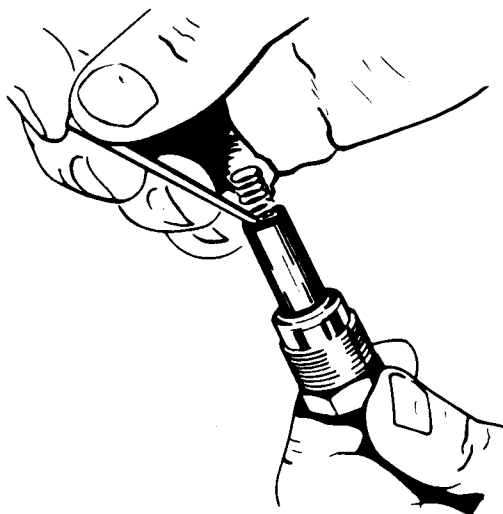

Figure 8-18. Removing Spring From Lead Assembly
1. Using a Bendix 11-7073 Needle or a mechanical pencil with the lead retracted, hook the end of the contact spring as shown in Figure 8-18.